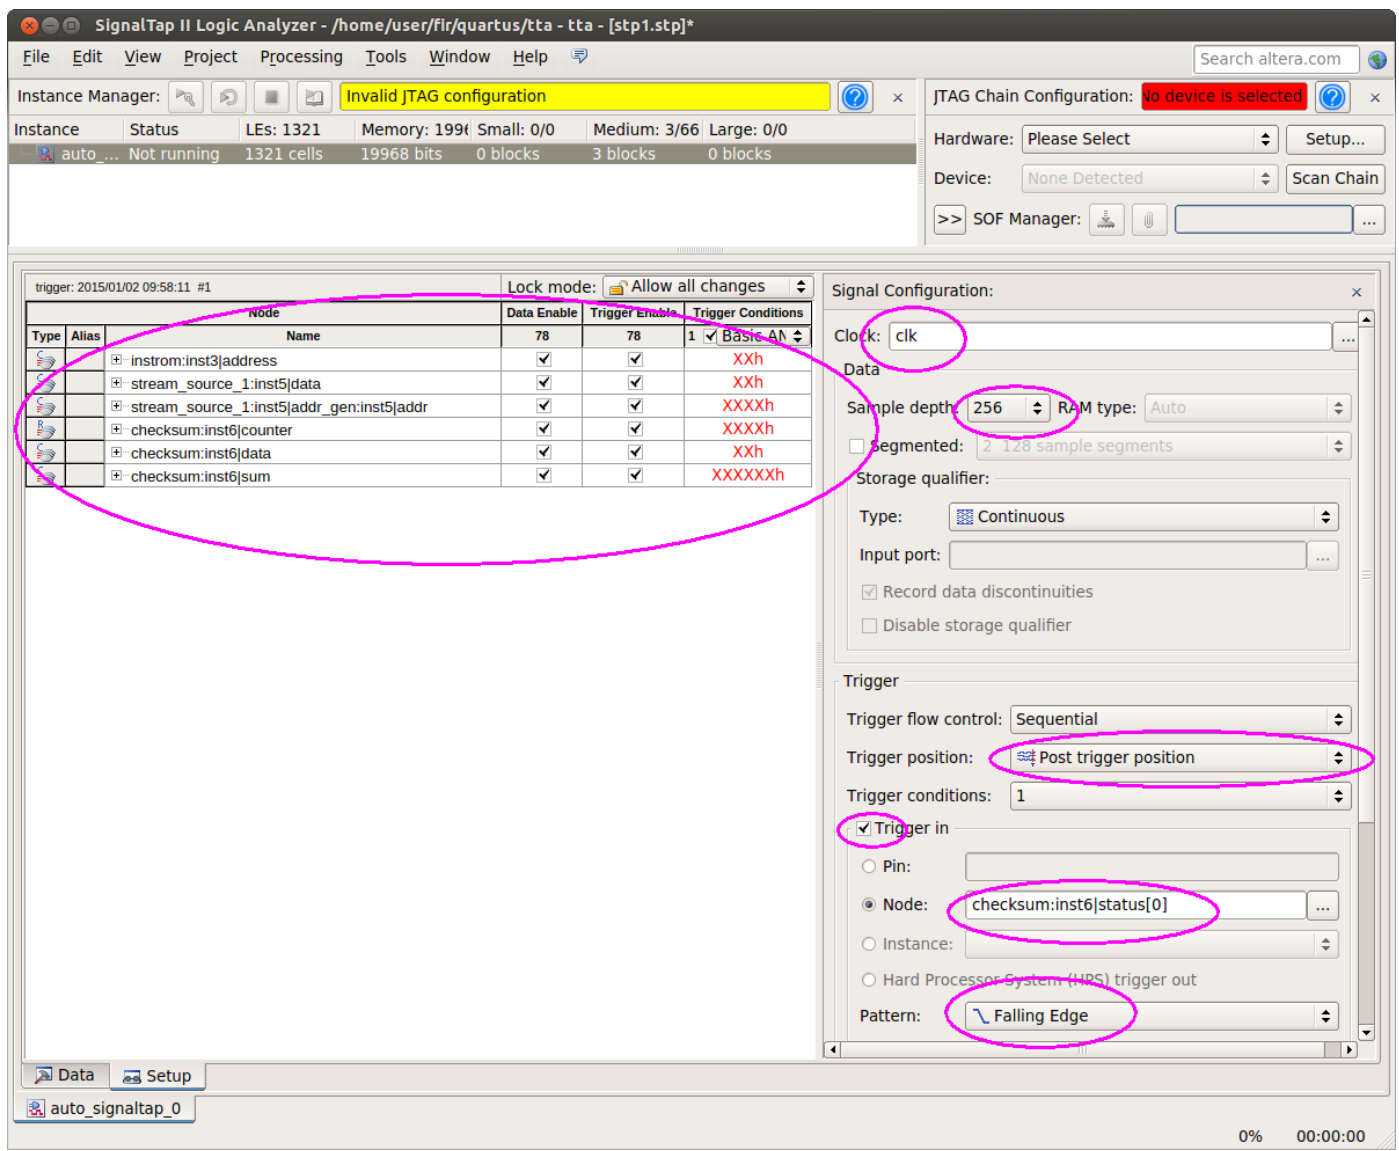

Figure 4.
4. Set all Signaltap options as in Figure 4.